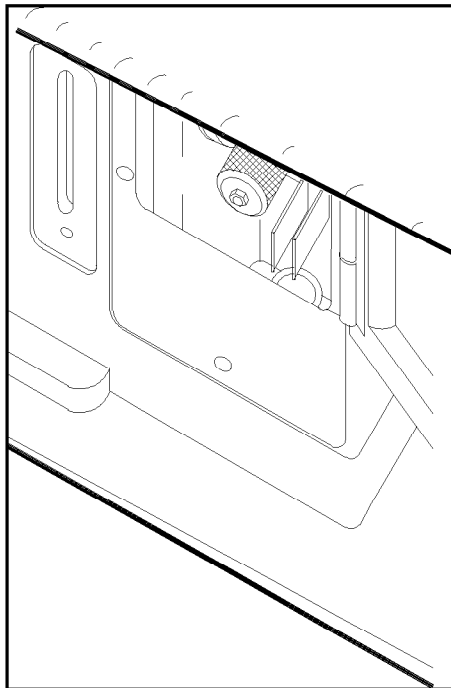

Figure 4-7. Flow Cell Compartment
3. Loosen the screw in the door of the flow-cell compartment and open the door, see Figure 4-7.